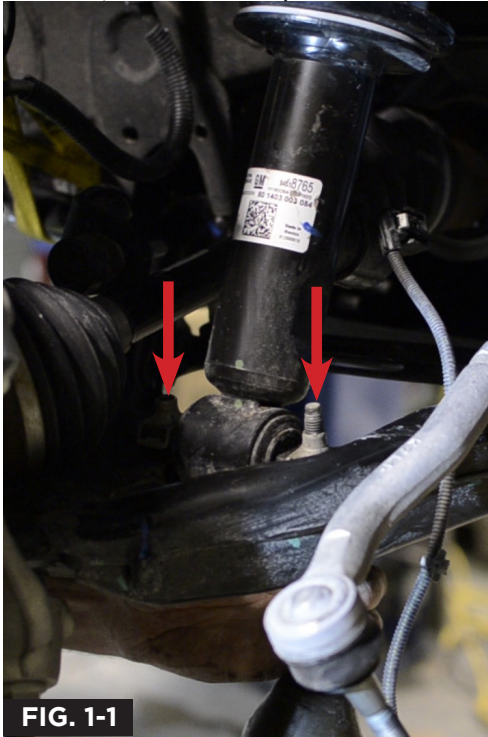

FIG. 1-1
6. Remove 2 lower strut mounting bolts with a 15mm socket. (Fig 1-1)